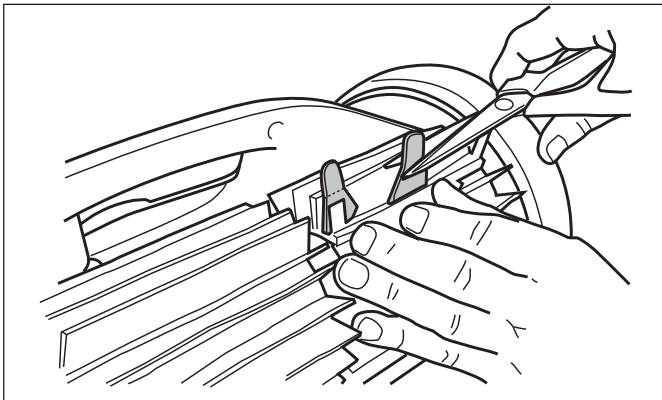

Figure 30. Cut Tabs
- Use a pair of scissors to cut the tabs 3/4 inch from the heel so that they are no higher than the cleaning blade (Figure 30).